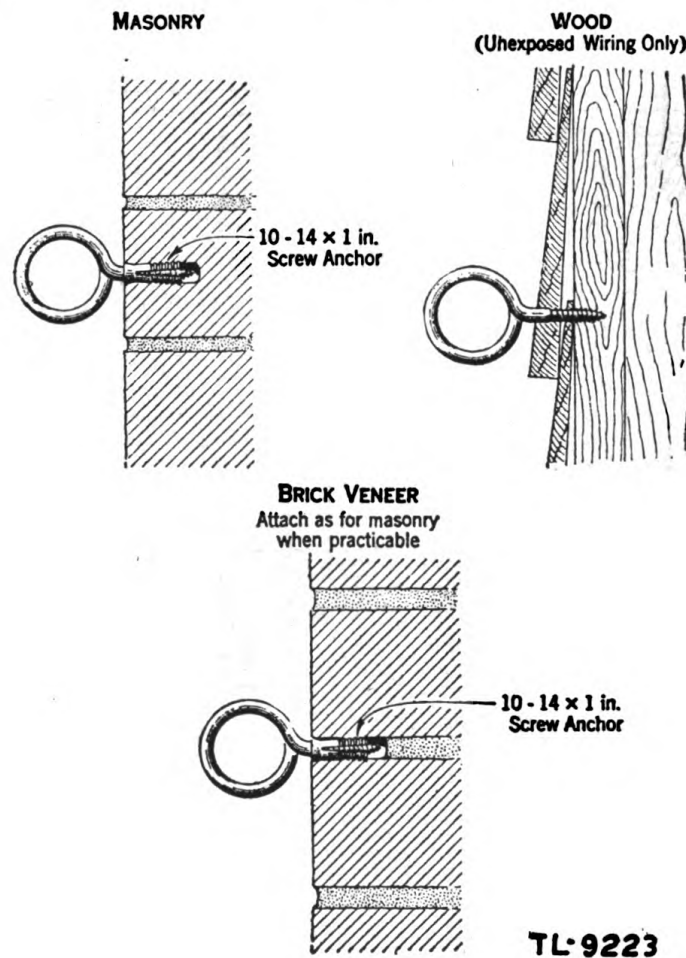

Figure 28. Bridle rings installed on various surfaces.
n. INSTALLING BRIDLE RINGS. (1) On masonry and bricks veneer, locate the bridle ring at the center of a brick. Seam attachments should be used only to avoid cracking the brick or to obtain a satisfactory location for the bridle ring.
(2) Install bridle rings as described in paragraph 8e(3) to (11).
(3) Figure 28 shows various installations of bridle rings.